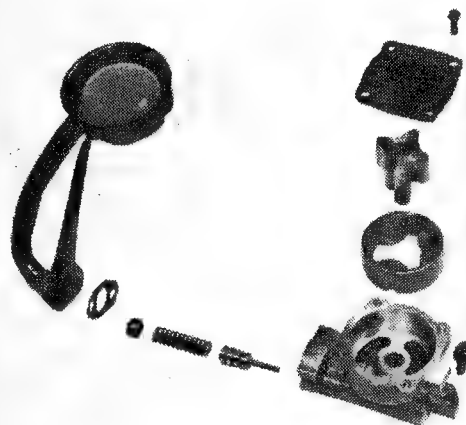

FIG. 54 Oil Pump Assembly
1. Remove the inlet tube and screw, 2 screws Fig. 54.